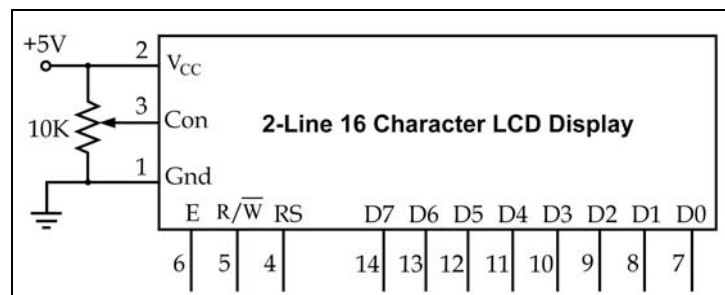

Fig. 4.4(c).
- The pin configuration of 16 by 2 LCD is shown in fig. 4.4(c).